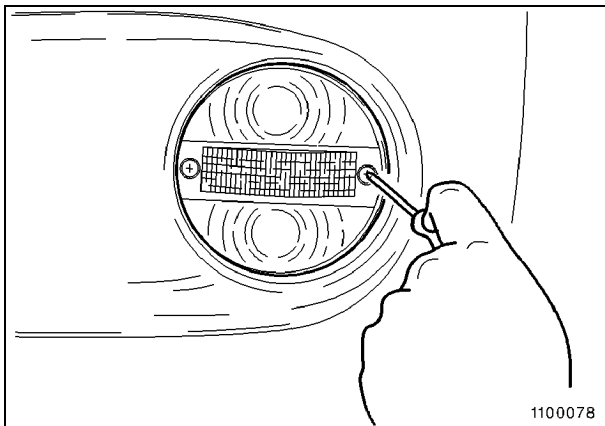

Fig. 6
- Unscrew the fastening screws of the lamp glass (Fig. 6)